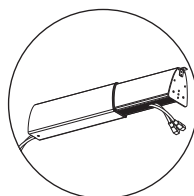
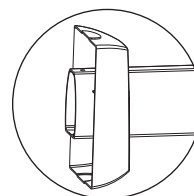
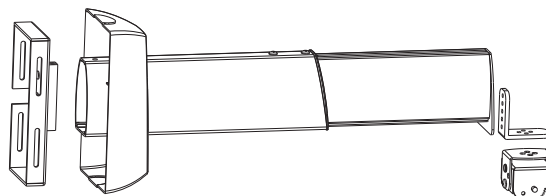
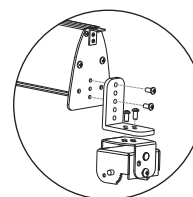

figure 1
figure 2
figure 3
figure 4
- 1 Firstly, collect the power wires to the main bar as figure 1. Invaginate the low cap to the main bar as figure 2. Install the low board to the main bar, and then fasten the screws (accessories 5) as figure 3. Finally, install the front board to the front board of main bar and install the adjuster to the front board, and then fasten the screws (accessories 6) as figure 4.